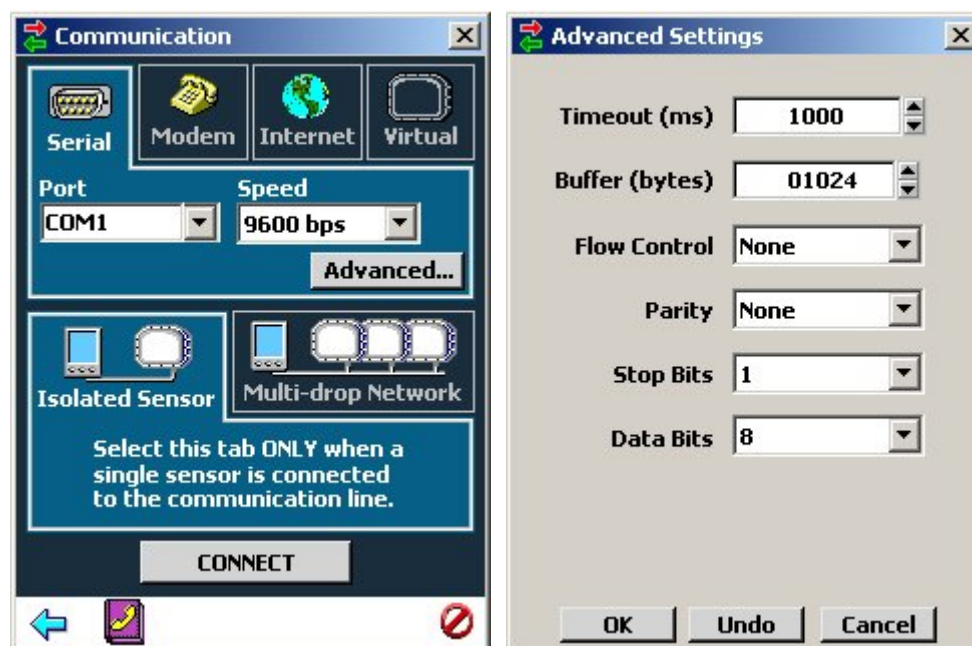

Figure 14 & 15 – Serial Connection and Advanced Settings
1. Click on **Communication** and the “Communication” window will appear (see Figure 14).